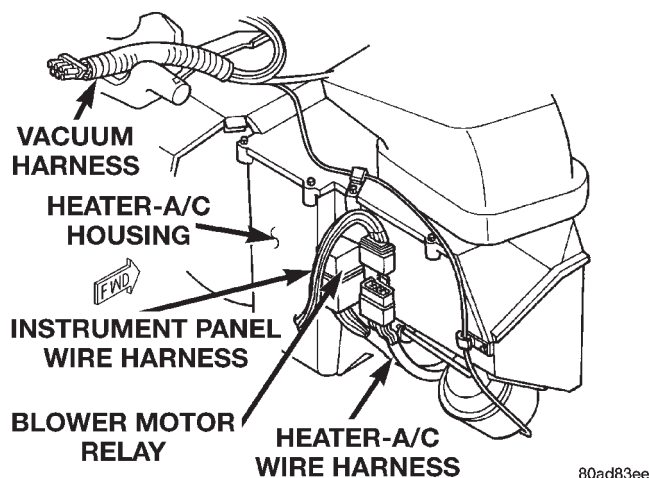

Fig. 41 Blower Motor Relay
(1) Disconnect and isolate the battery negative cable.
(2) Remove the glove box from the instrument panel. Refer to Glove Box in Group 8E - Instrument Panel Systems for the procedures.
(3) Locate the blower motor relay by looking through the outboard side of the glove box opening in the instrument panel. The relay and connector are just inboard of the heater-A/C wire harness connector (Fig. 41).